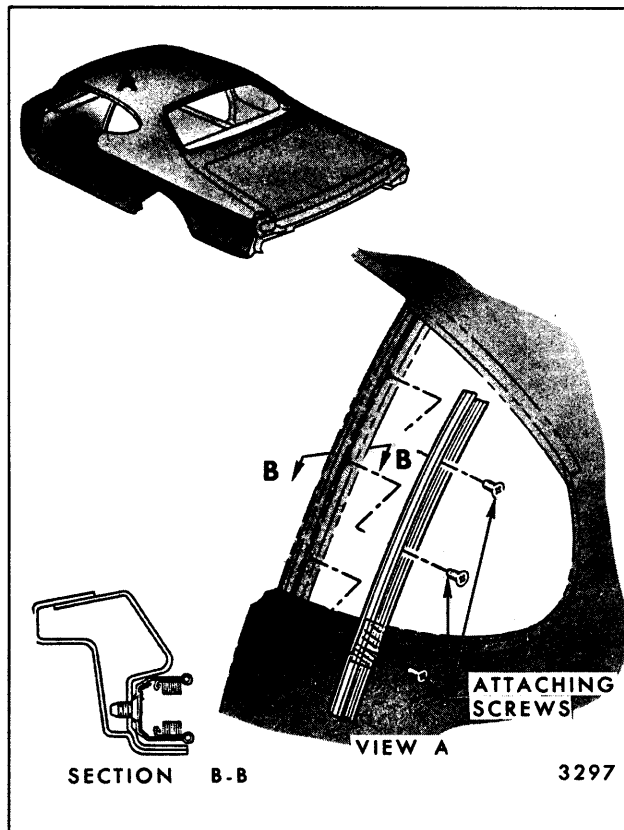

Fig. 7-9—Rear Quarter Window Front Glass Run Channel - Typical of All Closed Styles
2. Remove screws along length of run channel securing channel to body (Fig. 7-9).